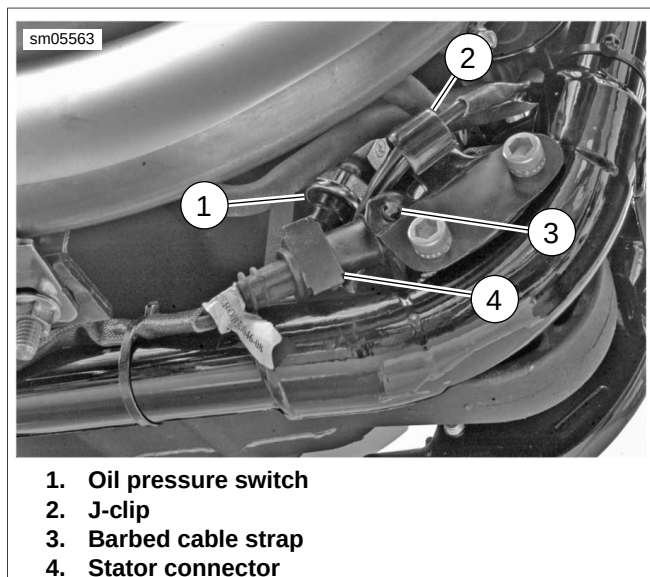

Figure 6-9. Oil Pressure Switch (Right Side View XR 1200)
2. See Figure 6-9. Unplug stator connector (4). Carefully pull barbed cable strap (3) from frame.